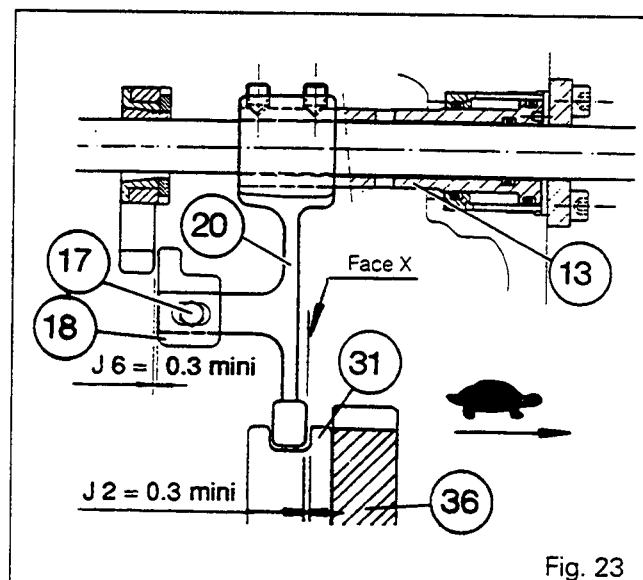

Fig. 23
93. Position the control piston (13) and the slide rod (31) on the low range (Tortoise).
94. Check that there is a play of **J2 = 0.3 minimum** (value determined by setting **J1**) between the pad and the slide rod when the slide rod is resting on the low range gear (36) (Fig. 23).
Note: In the Tortoise position, if face X of the pad of the fork (20) is resting on the slide rod (Fig. 23), increase play J1.
96. Slightly loosen the castellated nut (21). Apply a moderate coating of Loctite 270 on the threads of the cone (24).